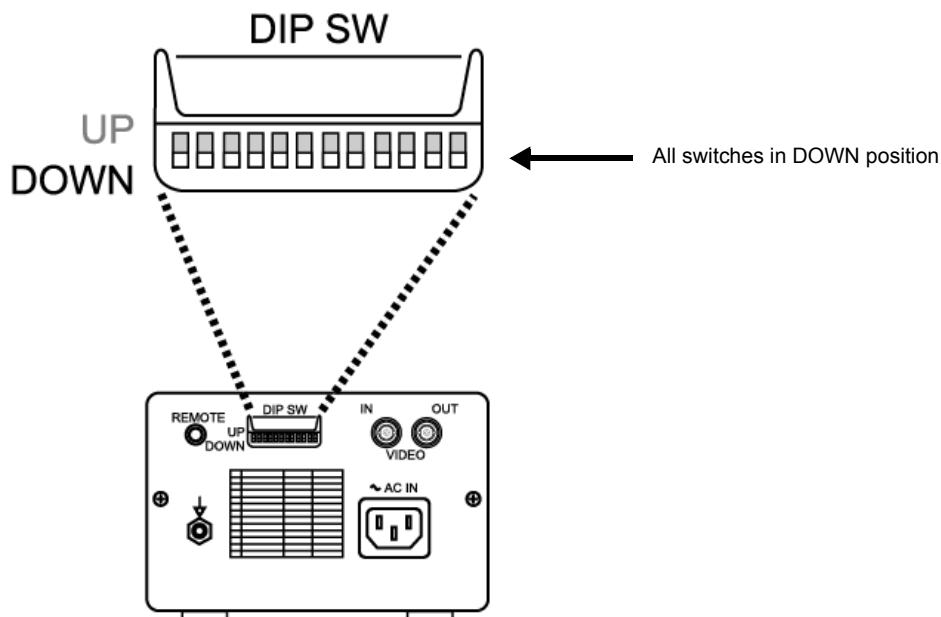

Figure 8-101 B/W Video Printer, DIP Switches on the Rear Panel
- 5) Verify that all the DIP Switches on the rear panel of the B/W Video Printer are in the **Down** position as shown in Figure 8-101 on page 8-115.